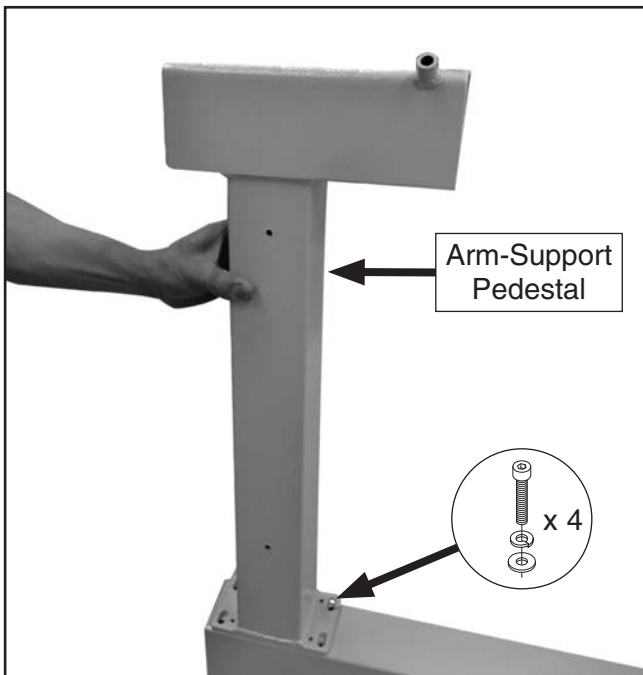

Figure 54. Installing arm-support pedestal.
- 53. Install arm-support pedestal onto arm-support base, using (4) M8-1.25 x 25 cap screws, (4) 8mm lock washers, and (4) 8mm flat washers (see **Figure 54**).